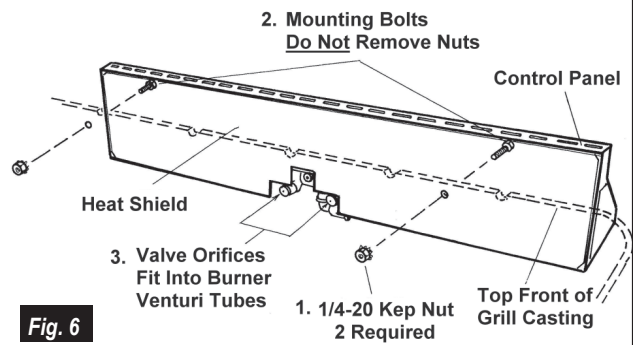
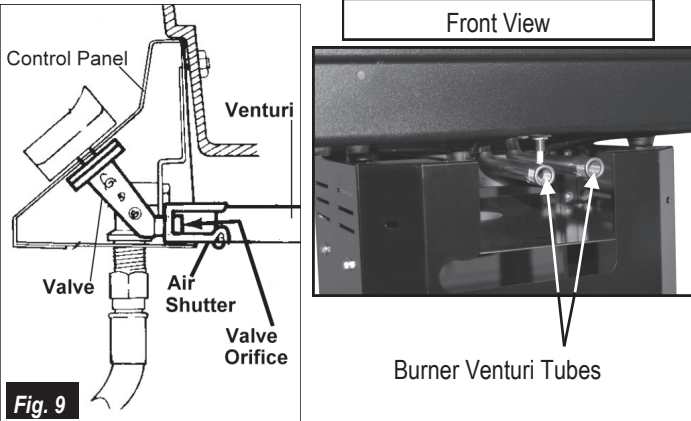

Fig. 6
Fig. 9
A. Attaching the Heat Shield and Control Panel Assembly (Fig. 6)
2. Leave the (2) nuts holding the heat shield on, to serve as spacer nuts.
3. Make sure the valve orifices on the control panel aligns with the burner venturi correctly and that the venturi tubes go over the valve orifices at least $\frac{1}{4}$ " to $\frac{1}{2}$ " (see Fig. 9 page 10).
D. Orifice Engagement (Fig. 9)